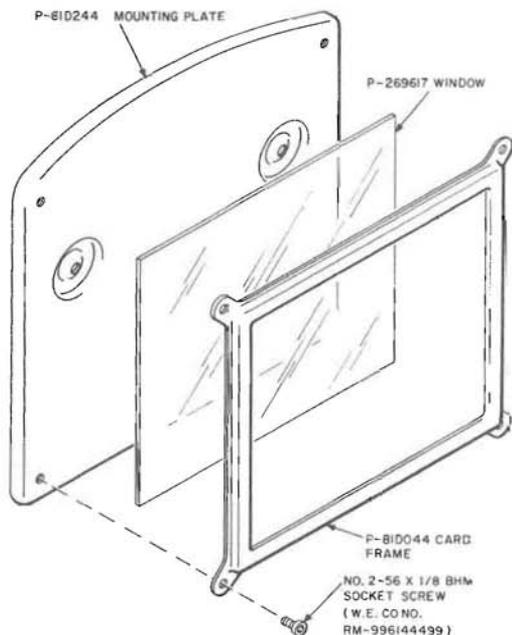

Fig. 32—50K-44 Apparatus Blank
- (1) Remove upper housing.
- (2) Remove three No. 4-36 by 9/32 RHM screws.
- (3) Install new apparatus blank using reverse procedure.
6.48 Replace damaged or missing screws and plastic windows per Fig. 32.